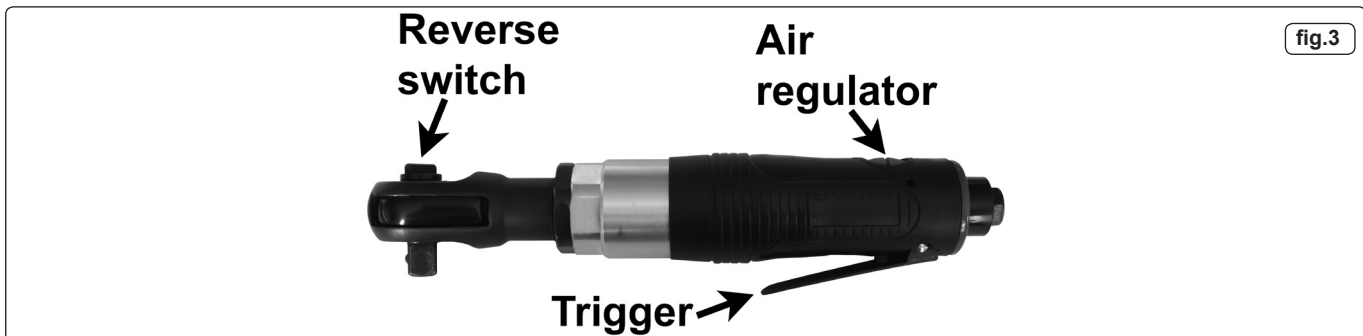

fig.3
5.2. Set the air regulator to the desired position. (See fig.3)
5.4. To change wrench direction turn the switch on the head of the wrench. (See fig.3)